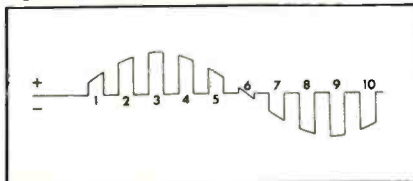
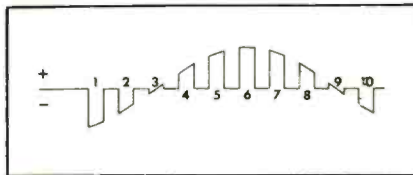

Fig. 8—The R-Y amplifier output display as viewed with the oscilloscope.
Fig. 9—The B-Y amplifier output display as viewed with the oscilloscope.
(1) Connect the output leads of the color bar generator to the antenna terminals of the color TV set.
(2) Set the function switch of the generator to the color bar pattern position.
(3) Adjust the controls of the color TV for the best possible picture.
(4) Connect a wide-bandwidth oscilloscope to the output of the R-Y amplifier. The sweep frequency of the oscilloscope should be set to 15,750 Hz. We should now obtain a waveform display on the oscilloscope screen similar to the one shown in Fig. 8.
(5) Set the *tint* control of the TV set to the center of its range, then adjust the *course tint* control adjustment for zero amplitude on the 6th bar of the oscilloscope display.
(6) Next, connect the oscilloscope to the output of the B-Y amplifier. Adjust the quadrature transformer driving the B-Y demodulator until the 3rd bar is at zero amplitude as shown in Fig. 9.